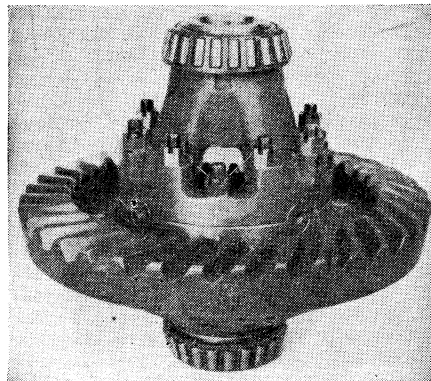

Fig. 95 If original identification marks are not clear, mark differential case halves with a punch before disassembling for correct alignment when reassembling
1. If original identification marks are not clear, mark differential case halves, Fig. 95, with a punch before disassembling for correct alignment when reassembling.